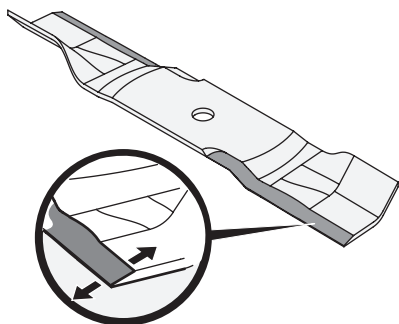

Figure 23
3. To properly sharpen the cutting blades, remove equal amounts of metal from both ends of the blades along the cutting edges, parallel to the trailing edge, at a 25°-30° angle. Always grind each cutting blade edge equally to maintain proper blade balance (Figure 23).